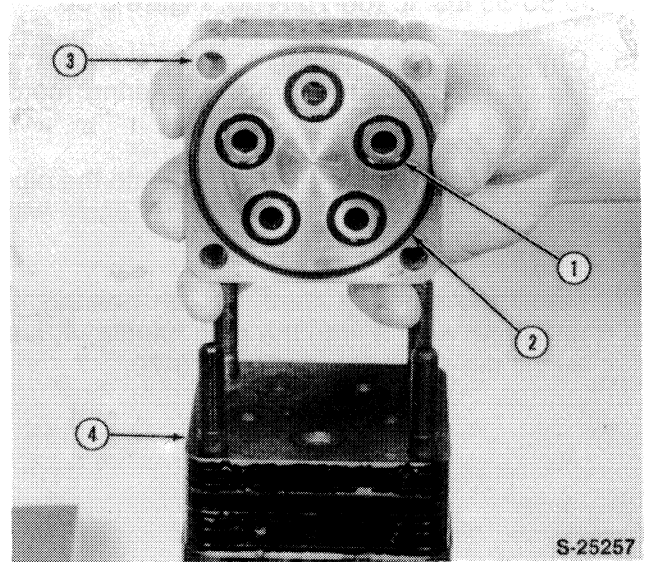

FIGURE 6-68
32. Lubricate and install five O-rings, 1, and seal ring, 2, into the port cover, 3, and install the port cover aligning the grooves with the port manifold, 4, Figure 6-68.